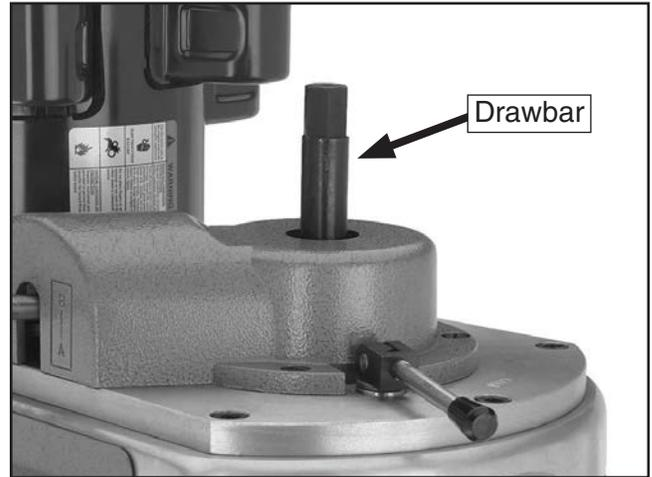

Figure 42. Drawbar inserted (Model G9902 shown).
5. Holding the tool in place, insert the drawbar into the top of the headstock and thread it into the tool (see **Figure 42**).